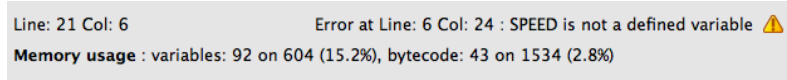

Figure 4: There is an error in your program.
2. Observe the message immediately below the Code Area, depicted in Figure 4. This indicates